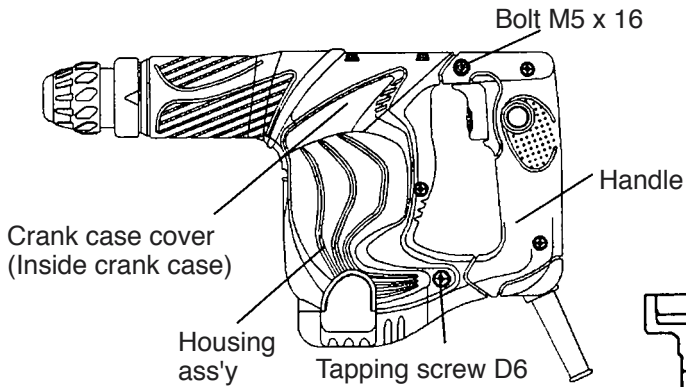
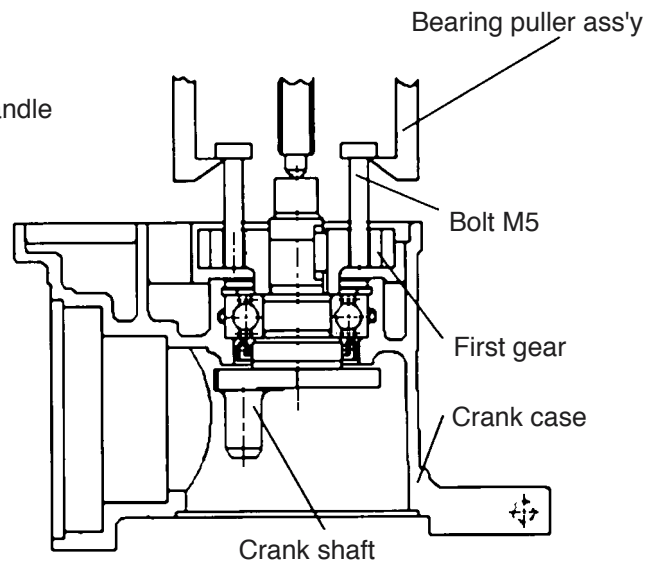
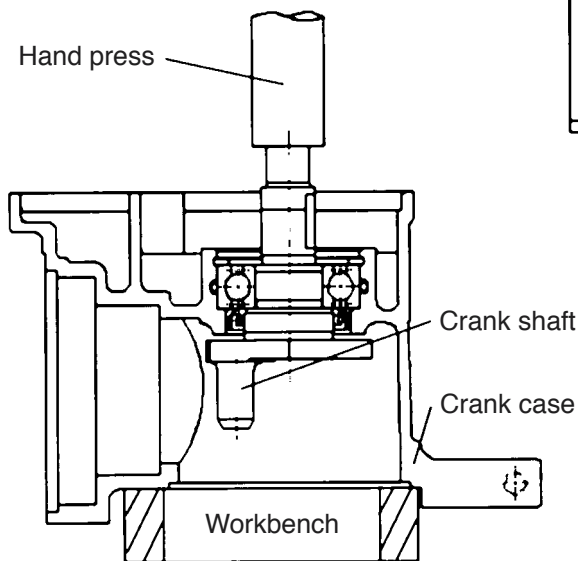

Fig. 17
Fig. 18
Fig. 19
Remove the Hex. Socket Hd. Bolts (W/Flange) M5 x 16 [70] and the Tapping Screws (W/Flange) D5 x 20 (Black) [71] fixing Handle (B) [69] and Handle (A) [80], then Handle (B) [69] and Handle (A) [80] can be removed from the Crank Case [46] and Housing Ass'y [65] (Fig. 17). Remove the Hex. Socket Hd. Bolts M6 x 35 [47] fixing the Crank Case [46], then the Crank Case [46] can be removed from the Housing Ass'y [65]. Two bolts M5 are inserted in M5 screw holes of First Gear [52]. Remove the First Gear [52] from the Crank Shaft [40] by using the bearing puller ass'y (J30, No. 970804) (Fig. 18). Place the Connecting Rod [38] side of the Crank Case [46] downward on a workbench and apply pressure on the end surface of the Crank Shaft [40] with a hand press to remove the First Gear [52] and the Crank Shaft [40] (Fig. 19).